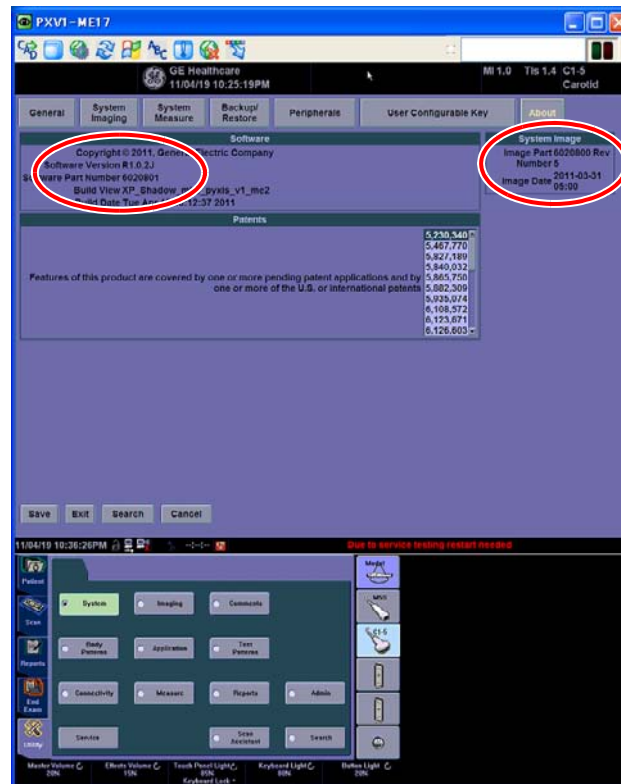

Figure 4-14 Software version
- 4.) Turn joystick knobs as shown in Fig 4-14.